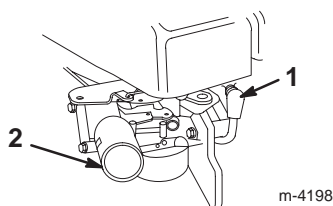

Figure 11
1. Connect the wire to the spark plug (Fig. 11).
2. Push in the primer 3 times, waiting one second between each push (Fig. 11).